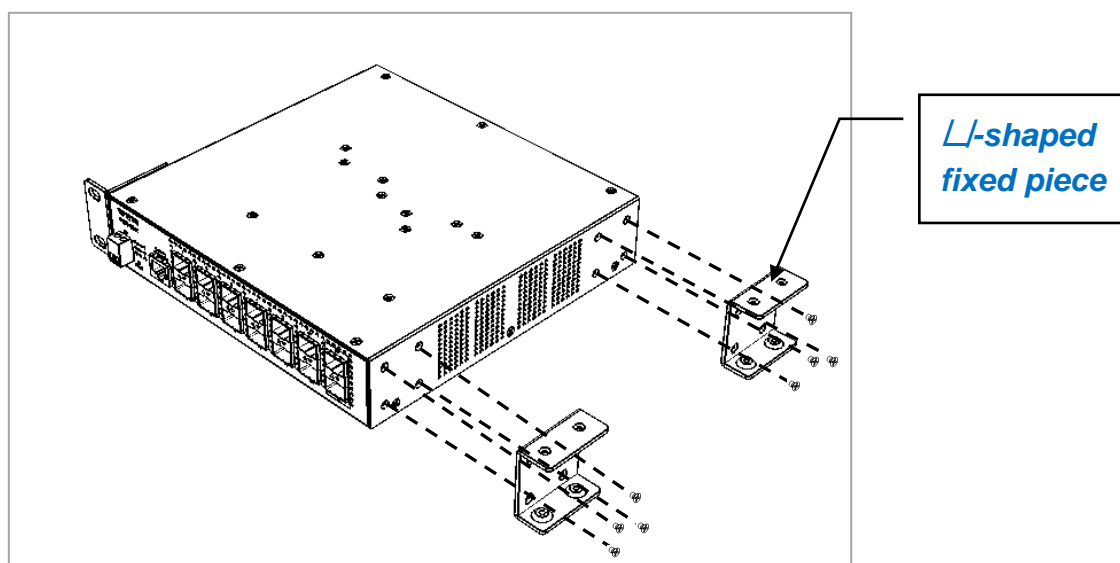

Figure 2-2. Install the -shaped fixed pieces for two-switch mounting
- 1.4. On the right side of the switch, attach one -shaped fixed piece by inserting the screws provided in the combine kit through this fixed piece and into the mounting holes in the switch. (See Figure 2-2)
- 1.5. Repeat the same manners as we had mentioned in Step 1.4 to install another -shaped fixed piece on the same side of this switch. (See Figure 2-2)